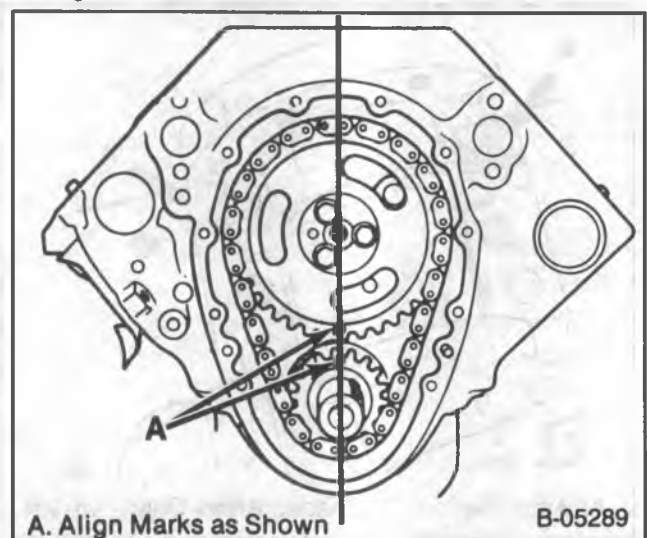

Figure 24 — Timing Marks
➡➡ Remove or Disconnect (Figures 24, 25, and 26)
- Align the timing marks (figure 24).
Install or Connect (Figures 24, 25, and 26)
- Line up the timing marks on the camshaft sprocket and crankshaft sprocket (figure 24).